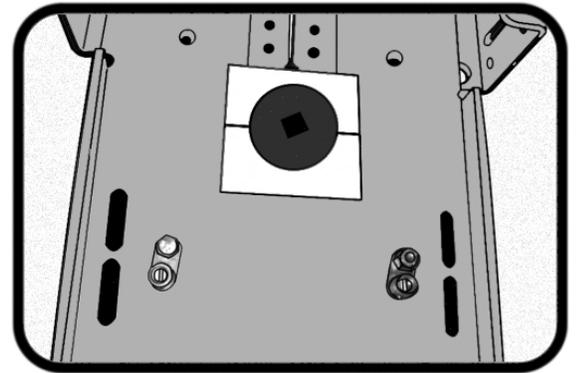

Fig. 9
**Step 8:** Attach the two remaining Bonding Lugs to the ends of the system: one to the outside of the motor end, and one to the outside of the opposite end. *(Fig. 9)*